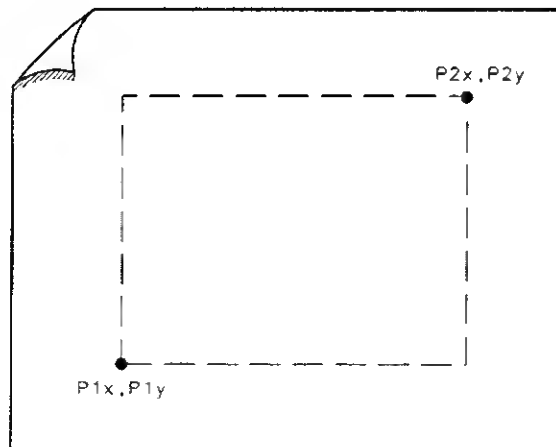

Figure 4-9. P1 and P2 Coordinates
3. Know how to select the scaling points on your plotter. The scaling points (referred to as the P1 and P2 plotter coordinates) define the lower-left and upper-right corners of the plot (see Figure 4-9). These coordinates define the size of the plot. Table 4-3 shows the scaling points for several Hewlett-Packard plotters.